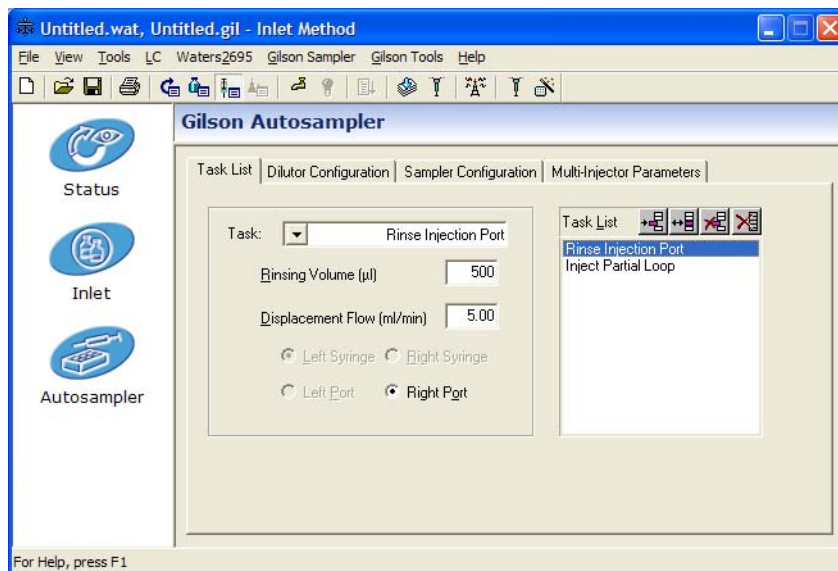

Figure G-11 Autosampler Parameters: Rinse Injector Port
14. Select Rinse Injector Port from the Task drop-down list and enter the parameters as shown in Figure G-11.